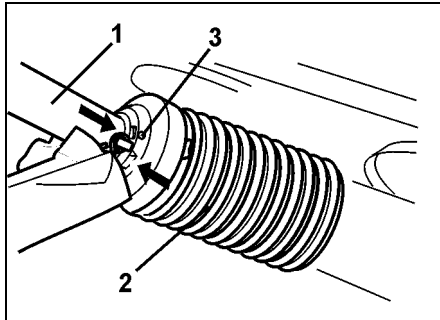

Fig. 16
- Push on protection half (Fig. 16/1).
- Twist guard cone (Fig. 16/2) into fitting position.
- Screw in lock bolt (Fig. 16/3).